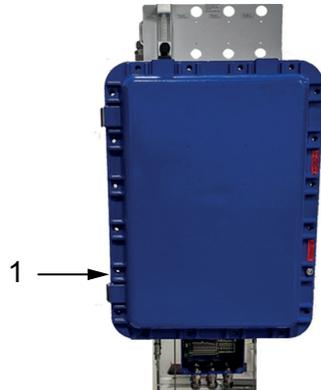
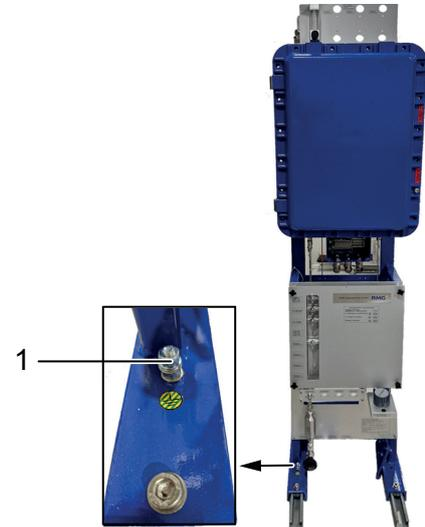

Fig. 26: Wall mounted variant
Fig. 27: Floor-mounted variant
- ▶ Please carry out earthing at the designated location (see fig. 26 and fig. 27). Use an earthing cable with a **minimum cross-section of 4 mm²**.